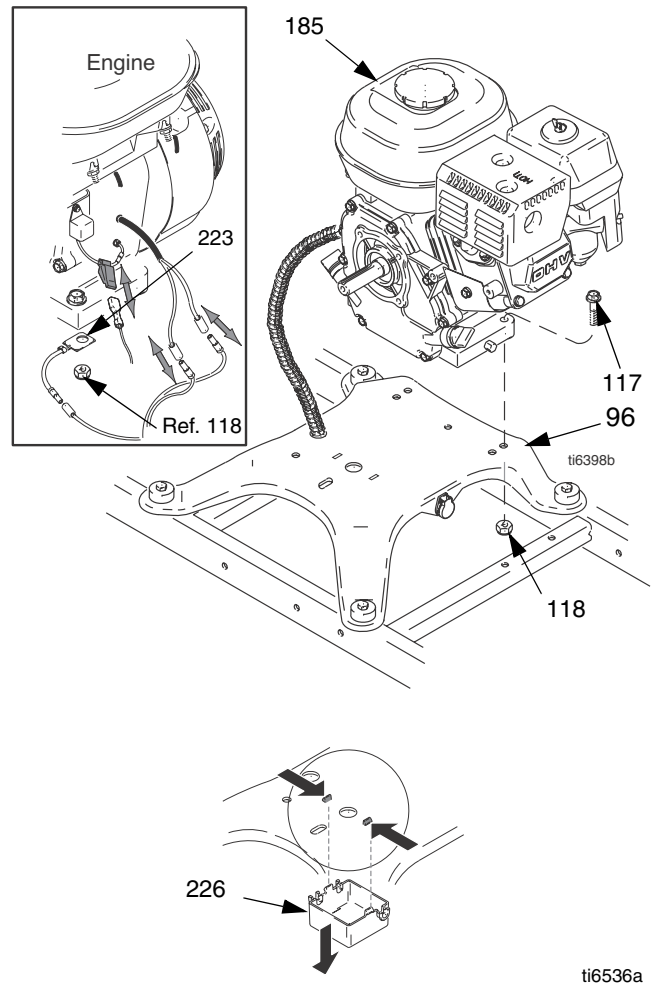

FIG. 12
2. FIG. 12. Remove junction box (226).
13. FIG. 12. Install junction box (226).
4. FIG. 12. Remove screw (177). Remove two screws (117), locknuts (118), and ground conductor (223, 260) from base of engine (185).
1. FIG. 12. Lift engine carefully and place on engine mount plate (96).
2. Install two screws (117) and ground conductor (223, 260) in base of engine and secure with locknuts (118). Torque to 20 ft-lb (27.1 N•m).